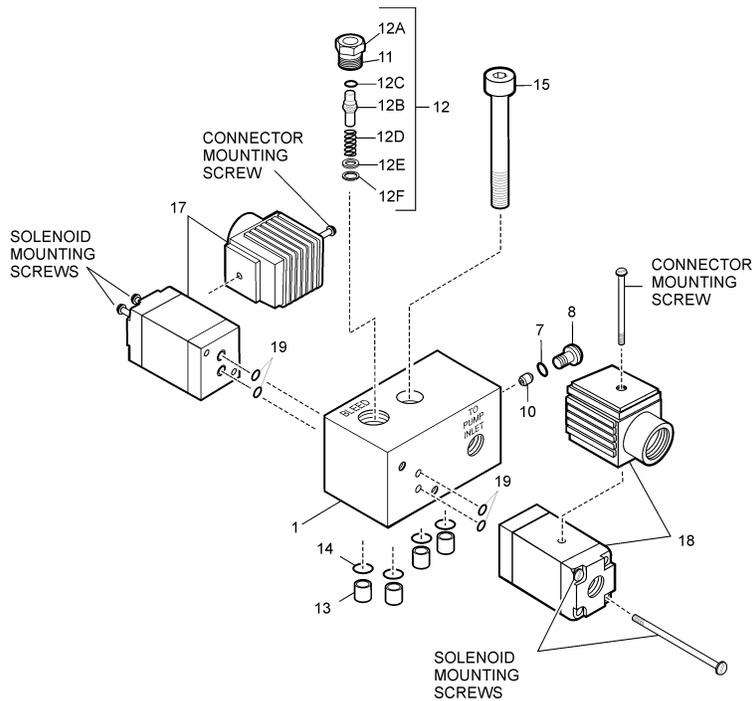

Figure 2
- 6.5.5 If the bleed valve was disassembled begin by placing O-ring (2-12C) over the Poppet (12B). Lay Plug (2-12A) upside down and insert assembled (2-12B) [Reference Figure 2]. Place Spring (2-12D) over the shaft of Poppet (2-12B). Place the Washer (2-12E) on the Spring (2-12D). Compress assembled unit thus far and use snap or lock ring pliers to separate the Retainer (2-12F) and install in the retainer groove on the inside diameter of the bleeder Plug (2-12A).
Reference Figure 2